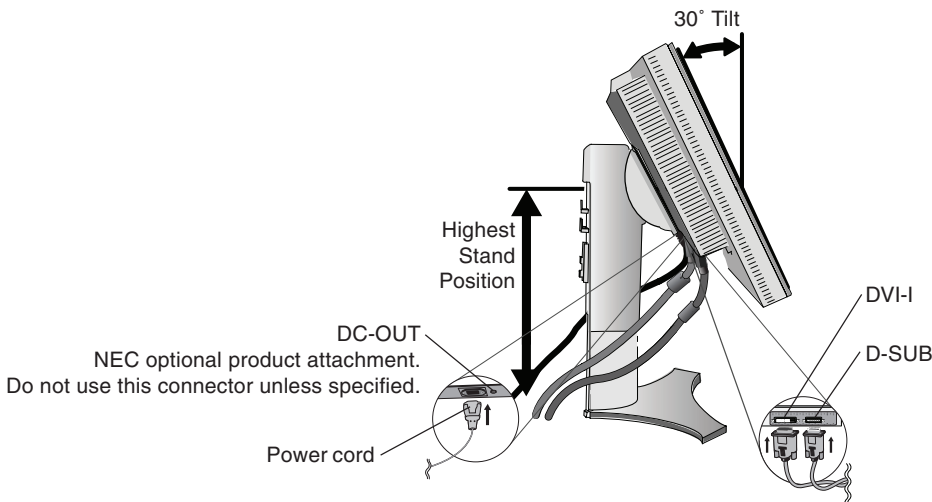

Figure C.1
3. With one hand, grip the top of the display by the handle using the other hand to grip the bottom and tilt the LCD panel 30-degree angle and lift up to the highest position (**Figure C.1**).
4. Connect all cables to the appropriate connectors (**Figure C.1**).